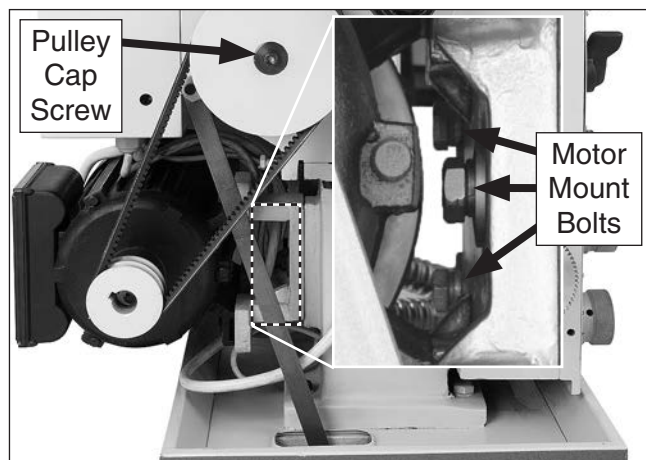

Figure 114. Pulley cap screw.
3. Loosen the motor mount bolts (**Figure 114**) and remove the belts.
4. Have another person step on the brake pedal to lock the pulley in place, and remove the pulley cap screw shown in **Figure 114**.